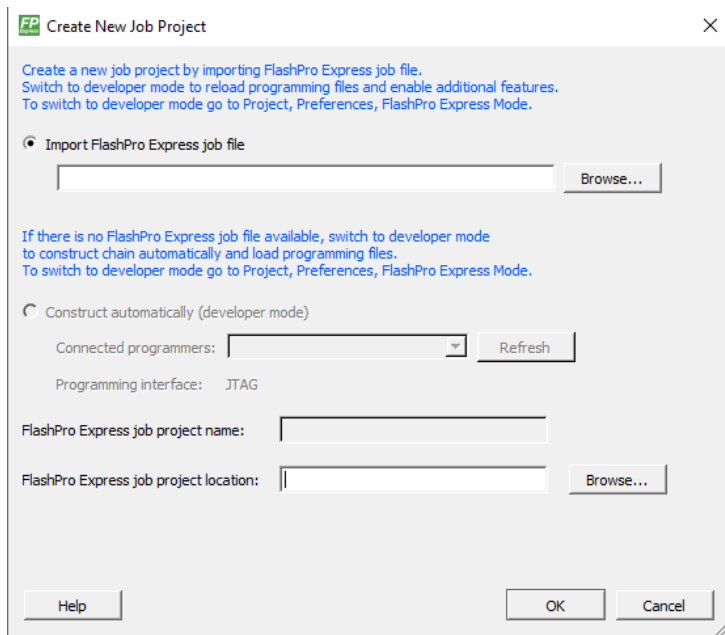

Figure 4: FlashPro Express create new job project dialog
- (d) The dialog shown in Figure 4 opens.